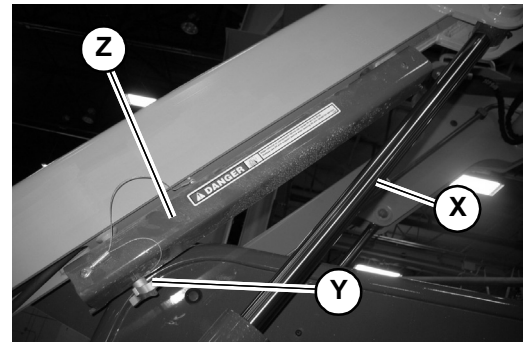
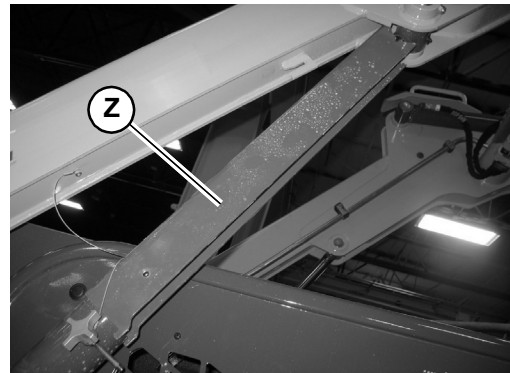
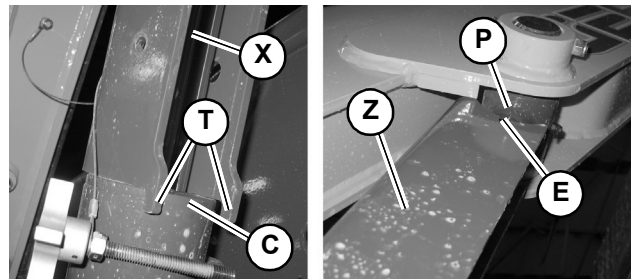

Fig. 62 – Lift Arm Support in Storage Position
Fig. 63 – Lift Arm Support Applied
Fig. 64 – Lift Arm Support Proper Positioning
- a. Remove retaining fastener (Y, Fig. 62) securing lift arm support (Z) in the storage position.
- b. Position the lift arm support (Z, Fig. 63) over the lift arm cylinder rod (X, Fig. 62 and Fig. 64).
- c. Position the lift arm support with the curved end (E, Fig. 64) of the support tight against the end of the cylinder rod (P), and tabs (T) on the support hooked over cylinder tube head (C) as shown.
9. Start the machine and lower the lift arm against lift arm support (Z). Verify that lift arm support (Z) is properly positioned as shown in Fig. 64.